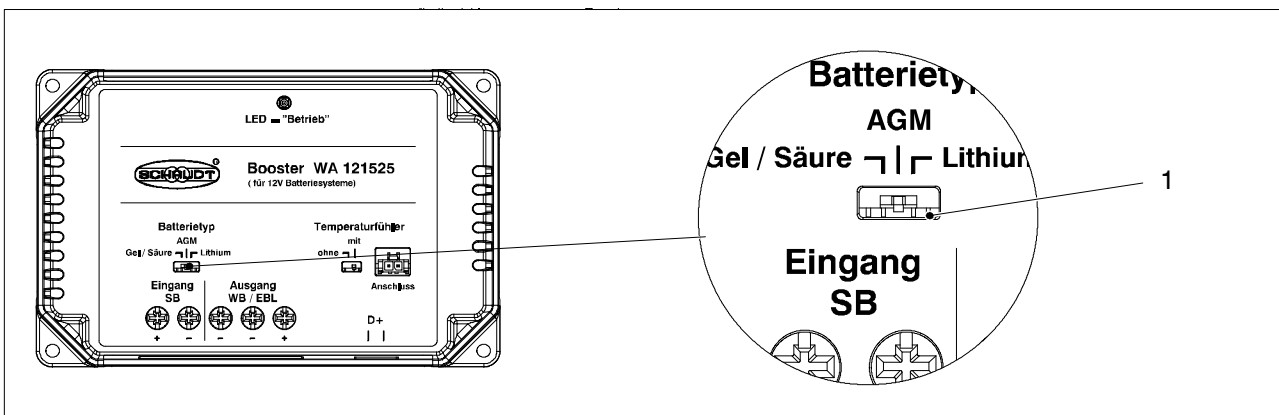

Fig. 6 Battery selector switch
- Move the battery selector switch (Fig. 6, Pos. 1) to the correct position: